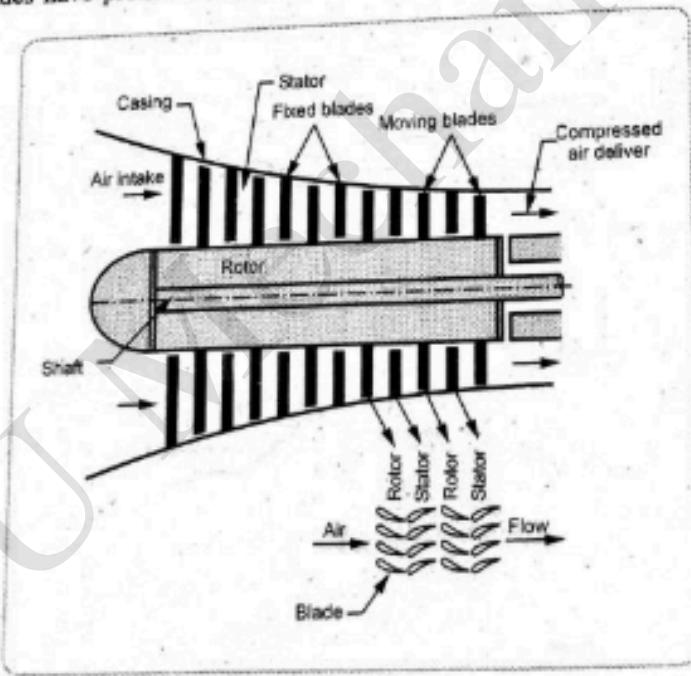

Fig. 7.1 : Drum type axial flow compressor
- Fig. 7.1 shows the axial flow compressor with drum type rotor. The compressor blades have aerofoil section whereas the turbine blades have profile section.